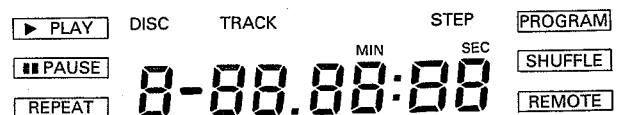

Fig. 5
- 2) All characters of the display should now be activated as shown in Fig. 5.